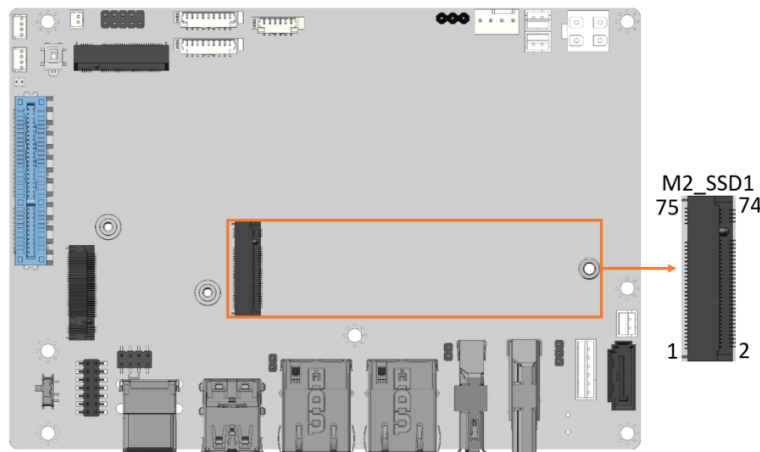

Figure 3-21: M.2 M-key Slot Location
- CN Location:** See Figure 3-21